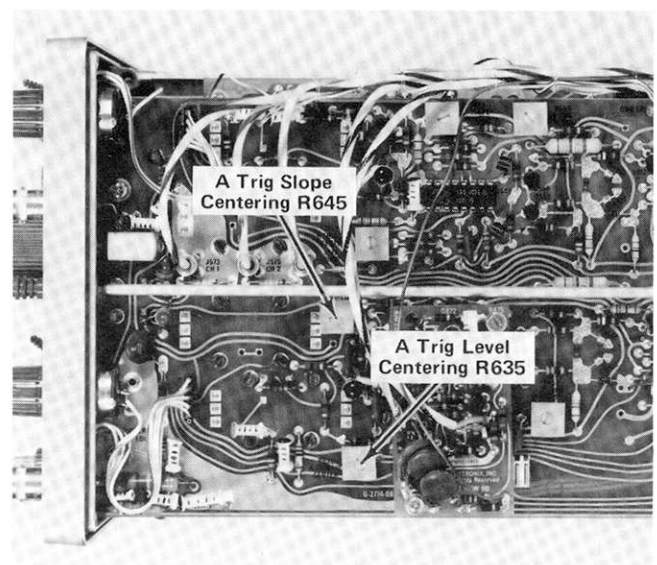

Fig. 5-26. Location of A Trigger Slope Center and Level Center adjustments.
c. ADJUST—A Trigger Level Centering adjustment, R635, (see Fig. 5-26) for the trigger point of the display to be at the graticule center, and adjust the B Trigger Slope Centering adjustment, R645 (see Fig. 5-26) so that the trace begins at the graticule center in both the + and – slope.